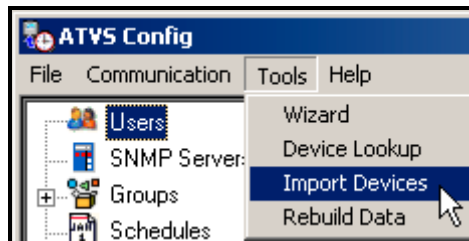

Figure 6-2. Import Devices.
Step 1. Start the ATVS software and login with your ATVS Username and Password (different than the clock login!). From the main ATVS Config screen, click on the **Tools** menu, and select the **Import Devices** sub-menu (see *Figure 6-2*) to launch the Import Devices screen. This is the easiest and most direct method for finding and importing TS-3000i clocks into ATVS.